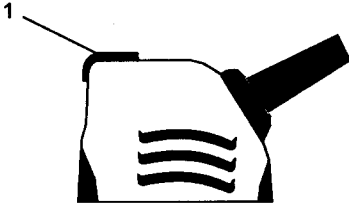

Fig. 1
This cutter is equipped with a sliding ON / OFF switch (1) located on the side of the tool (see Fig. 1).